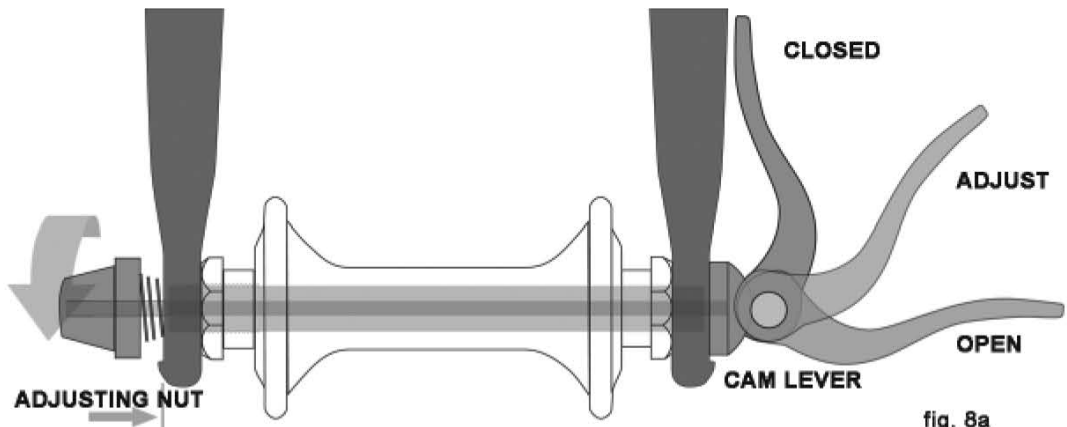

fig. 8a
There are currently two types of over-center cam wheel retention mechanisms: the traditional over-center cam (fig. 8a) and the cam-and-cup system (fig. 8b). Both use an over-center cam action to clamp the bike's wheel in place. Your bicycle may have a cam-and-cup front wheel retention system and a traditional rear wheel cam action system.
a. Adjusting the traditional cam action mechanism (fig. 8a)
- (2) If your bike has cam action front wheel retention, move the cam lever from the locked or CLOSED position to the OPEN position (fig. 8a & b). If your bike has through bolt or bolt-on front wheel retention, loosen the fastener(s) a few turns counter-clockwise using an appropriate wrench, lock key or the integral lever.
- (3) If your front fork has a clip-on type secondary retention device, disengage it. If your front fork has an integral secondary retention device, and a traditional cam action system (fig. 8a) loosen the tension adjusting nut enough to allow removing the wheel from the dropouts. If your front wheel uses a cam-and-cup system, (fig. 8b) squeeze the cup and cam lever together while removing the wheel. No rotation of any part is necessary with the cam-and-cup system.
- (2) With the steering fork facing forward, insert the wheel between the fork blades so that the axle seats firmly at the top of the fork dropouts. The cam lever, if there is one, should be on rider's left side of the bicycle (fig. 8a & b). If your bike has a clip-on type secondary retention device, engage it.
- (3) If you have a traditional cam action mechanism: holding the cam lever in the ADJUST position with your right hand, tighten the tension adjusting nut with your left hand until it is finger tight against the fork dropout (fig. 8a). If you have a cam-and-cup system: the nut and cup (fig. 8b) will have snapped into the recessed area of the fork dropouts and no adjustment should be required.
- (4) While pushing the wheel firmly to the top of the slots in the fork dropouts, and at the same time centering the wheel rim in the fork:
- (a) With a cam action system, move the cam lever upwards and swing it into the CLOSED position (fig. 8a & b). The lever should now be parallel to the fork blade and curved toward the wheel. To apply enough clamping force, you should have to wrap your fingers around the fork blade for leverage, and the lever should leave a clear imprint in the palm of your hand.
- (1) With a cam action system, move the cam lever to the OPEN position (see fig.
- (2) On a derailleur bike, make sure that the rear derailleur is still in its outermost, high gear, position; then pull the derailleur body back with your right hand. Put the chain on top of the smallest freewheel sprocket.
- (3) On single-speed, remove the chain from the front sprocket, so that you have plenty of slack in the chain. Put the chain on the rear wheel sprocket.
- (4) Then, insert the wheel into the frame dropouts and pull it all the way in to the dropouts.
- (5) On a single speed or an internal gear hub, replace the chain on the chainring; pull the wheel back in the dropouts so that it is straight in the frame and the chain has about 1/4 inches of up-and-down play.
- (6) With a cam action system, move the cam lever upwards and swing it into the CLOSED position (fig. 8a & b). The lever should now be parallel to the seat stay or chain stay and curved toward the wheel. To apply enough clamping force, you should have to wrap your fingers around the fork blade for leverage, and the lever should leave a clear imprint in the palm of your hand.
- (7) With a through-bolt or bolt-on system, tighten the fasteners to the torque specifications in Appendix C or the hub manufacturer's instructions.
Some bikes are equipped with a cam action seat post binder. The seat post cam action binder works exactly like the traditional wheel cam action fastener (Section 4.A.2) While a cam action binder looks like a long bolt with a lever on one end and a nut on the other, the binder uses an over-center cam action to firmly clamp the seat post (see fig. 8a).